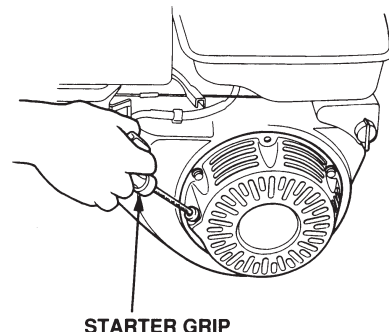

Figure 19. Starter Grip
6. Pull the **starter grip** (Figure 19) lightly until you feel resistance, then pull briskly. Return the starter grip gently. Push the clutch lever forward, toward the tow tongue end of the mixer. When engine starts, adjust throttle lever so that paddle shaft inside mixer rotates between 30-40 RPMs. The number of RPMs will vary depending on engine type and load.